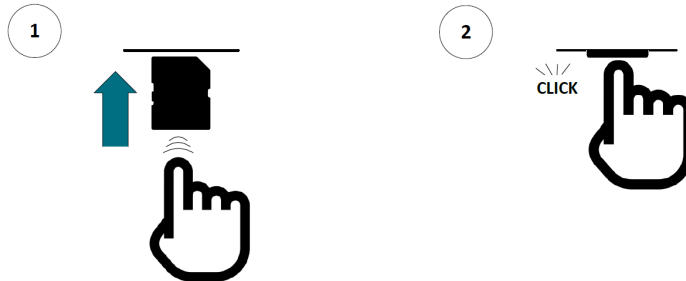

Fig. 6.2: SD card insertion
Insert the SD card into the slot with the contacts side downwards as shown in **Fig. 6.2**. Completely push in the card until you hear a click' sound, then release.
3. Re-insert one or both the SD cards (see **Fig. 6.2**) and press the "Restart with SD cards" button in the Web Interface page when ready. The device will restart logging to new log files.